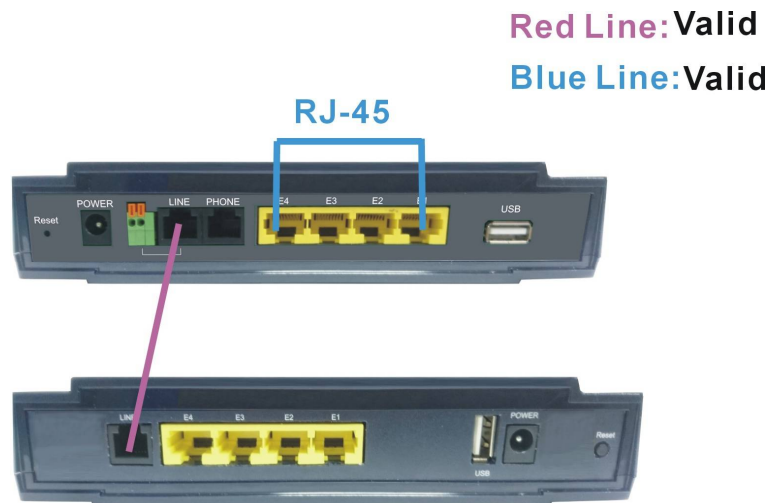

Figure 2.1 VC-400LTU line ports straight connection
- ◆ The line port have 1 connector: RJ-11 . It is used to connect with VC-400LTU (CO) over a single pair phone wire to VC-400RTU CPE(Slave) side (point to point application). (Figure 2.1)